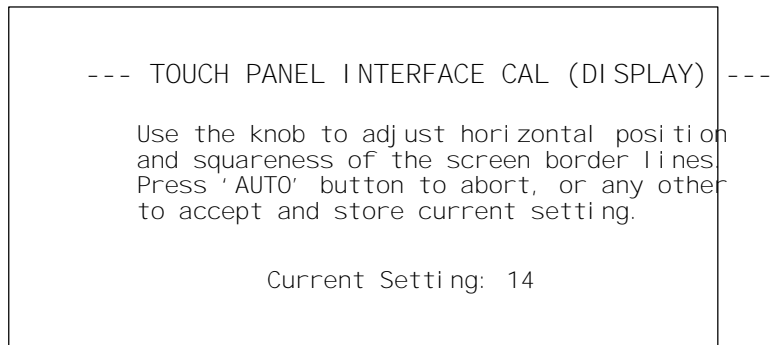

Figure 1-4: Touch screen calibration (display)
5. Press the **Select Line** button to make the selection to calibrate. The first touch screen calibration instructions are then displayed as shown in Figure 1-4.